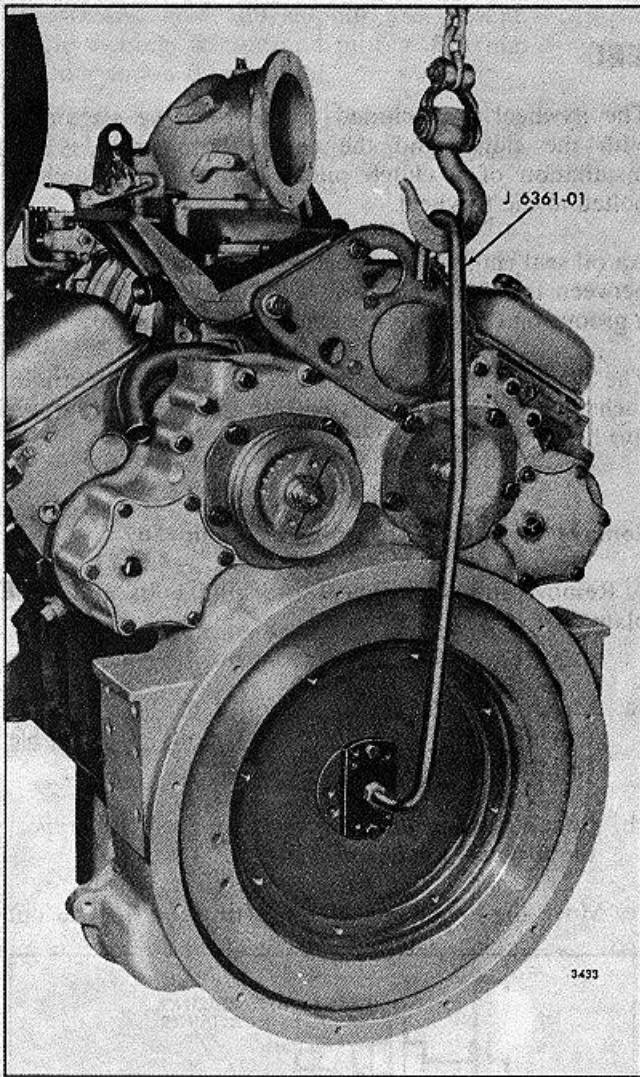

FIG. 3 Removing Flywheel
- b. Attach a chain hoist to the lifting tool to support the flywheel as shown in Fig. 3.